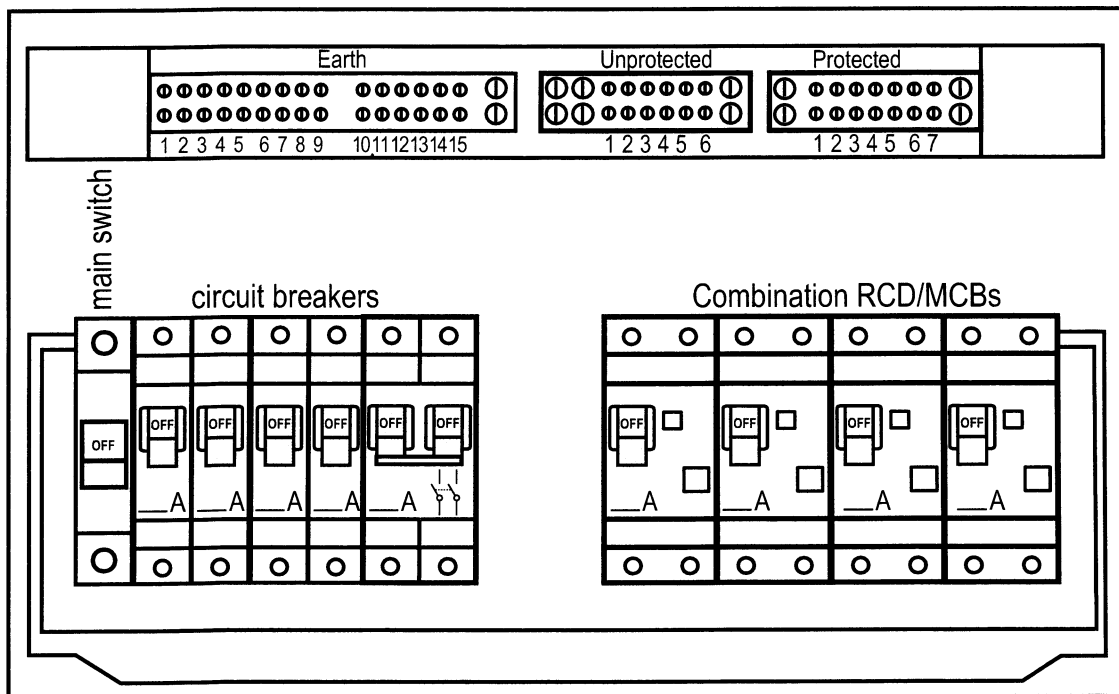

Figure 4.7 Two-pole combination RCD/MCB
3. The equipment shown in Figure 4.7 is for a switchboard in a domestic installation. Show on the diagram the necessary Active, Neutral and Earth connections for the following: